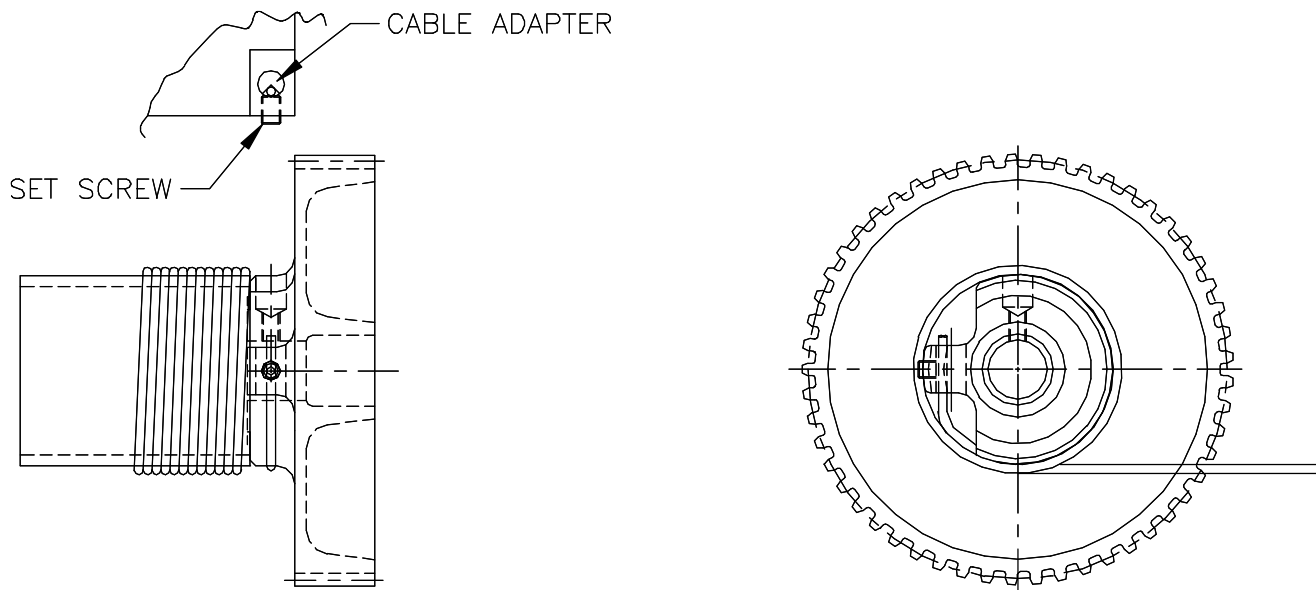

Figure 2-1. Winch Drum and Cable Anchor
- For safe operation, maintain a minimum of four wraps on the cable drum. Wind cable from underside of drum (Figure 2-1 and Repair Parts List, Section 7).